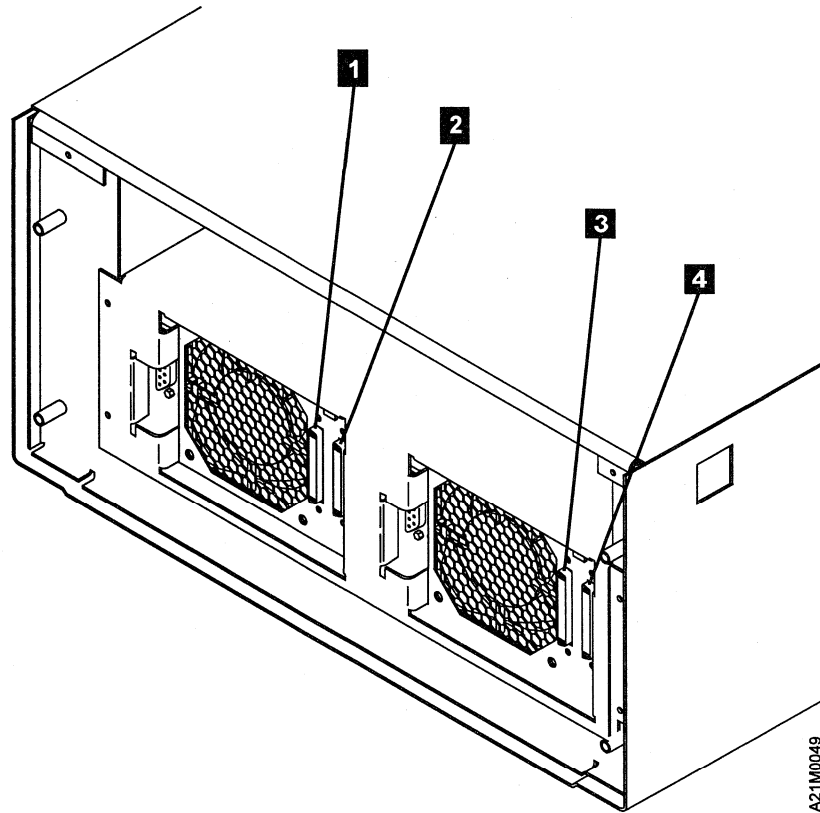

Figure 74. Rear View of Model C22
- 2. Ensure the SCSI Bus Jumper is connected to the rightmost SCSI connector on the back of tape drive 1, and to the leftmost SCSI connector on the back of tape drive 2. (See items **2** and **3** in Figure 74 on page 111).
- 3. If the 3570 is the first, or only, device in line connected to the initiator, connect the SCSI cable coming from the initiator to the leftmost SCSI connector on the back of the library. (See item **1** in Figure 74 on page 111).
- 4. If the 3570 is **not** the first device on the SCSI bus, connect the SCSI interface cable coming from the next closest device to the leftmost SCSI connector on the back of the library. (See item **1** in Figure 74 on page 111).
- \_\_\_ 5. If this is the last device on the SCSI bus, locate the SCSI interface terminator (P/N 61G8324) and attach it to the rightmost SCSI interface connector on the back of the library. (See item 4 in Figure 74 on page 111). If the library is **not** the last device on the SCSI bus, locate the SCSI interface cable to the next device, and connect it to the unused, rightmost SCSI interface connector on the back of the library. (See item 4 in Figure 74 on page 111).
- \_\_\_ 8. If tape drive 1 in the 3570 is the first, or only, device in line connected to the initiator, connect the SCSI cable coming from the initiator to the leftmost SCSI connector on the back of tape drive 1. (See item 1 in Figure 74 on page 111).
- \_\_\_ 9. If tape drive 1 is **not** the first device on the SCSI bus, connect the SCSI interface cable coming from the next closest device to the leftmost SCSI connector on the back of tape drive 1. (See item 1 in Figure 74 on page 111).
- \_\_\_ 10. If tape drive 1 is the last device on the SCSI bus, locate the SCSI interface terminator (P/N 61G8324) and attach it to the rightmost SCSI interface connector on the back of tape drive 1. (See item 2 in Figure 74 on page 111).
- \_\_\_ 11. If tape drive 1 is **not** the last device on the SCSI bus, locate the SCSI interface cable to the next device, and connect it to the unused, rightmost SCSI interface connector on the back of tape drive 1. (See item 2 in Figure 74 on page 111).
- \_\_\_ 12. If tape drive 2 in the 3570 is the first, or only, device in line connected to the initiator, connect the SCSI cable coming from the initiator to the leftmost SCSI connector on the back of tape drive 2. (See item 3 in Figure 74 on page 111).
- \_\_\_ 13. If tape drive 2 is **not** the first device on the SCSI bus, connect the SCSI interface cable coming from the next closest device to the leftmost SCSI connector on the back of tape drive 2. (See item 3 in Figure 74 on page 111).
- \_\_\_ 14. If tape drive 2 is the last device on the SCSI bus, locate the SCSI interface terminator (P/N 61G8324) and attach it to the rightmost SCSI interface connector on the back of tape drive 2. (See item 4 in Figure 74 on page 111).
- \_\_\_ 15. If tape drive 2 is **not** the last device on the SCSI bus, locate the SCSI interface cable to the next device, and connect it to the unused, rightmost SCSI interface connector on the back of tape drive 2. (See item 4 in Figure 74 on page 111).
16. When the 3570 is correctly connected, all four SCSI connectors on back of the Magstar MP (see **1**, **2**, **3**, and **4** in Figure 74) must have either a SCSI cable or a SCSI terminator attached.